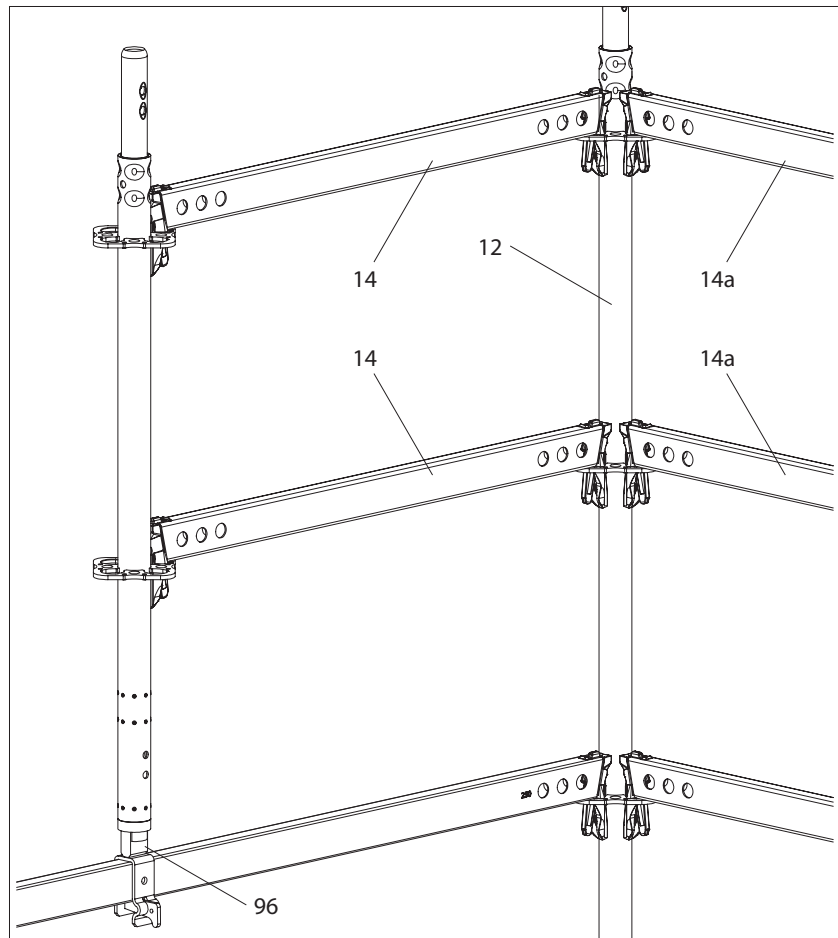

Fig. A11.09
- Its use as a support for a free-standing guardrail post is only possible if the free guardrail post is connected to a torsionally stiff standard (12) with 2 horizontal ledgers (14)  $\leq 2.25$  m (14). The standard (12) must be held by further horizontal ledgers (14a) extending at an angle of  $90^\circ$ . (Fig. A11.09)